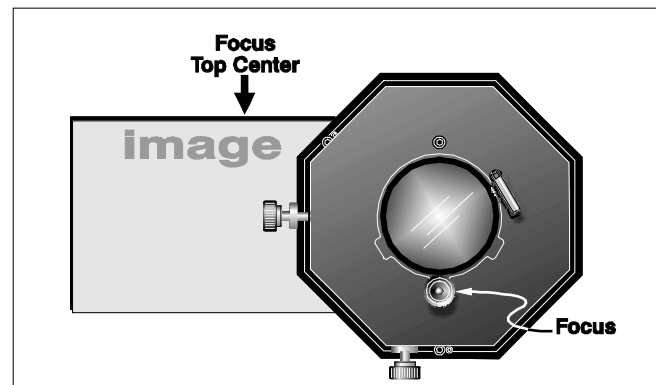

Figure 2.40. Adjust Top Focus
3. Adjust the horizontal boresight bolt (Figure 2.40) as necessary to direct or “aim” the lens toward the side of the image which focused too close to the lens. When both sides appear equally blurry, re-focus on the left side of the screen.